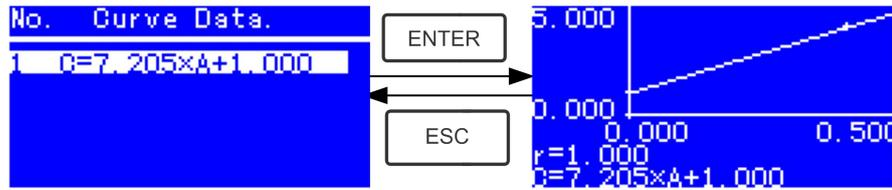

Fig. 4-14
- ★ Move the cursor on the equation that you need and press to confirm. Then the corresponding curve will display on the screen. (Fig. 4-14)